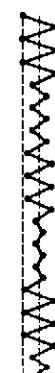

Fig. 213
**STITCHING:** Zigzag stitching performed at width desired up to maximum bight, the needle swinging equally **to the right and to the left of the central position**. Variations of this stitching are shown in **Fig. 213**.